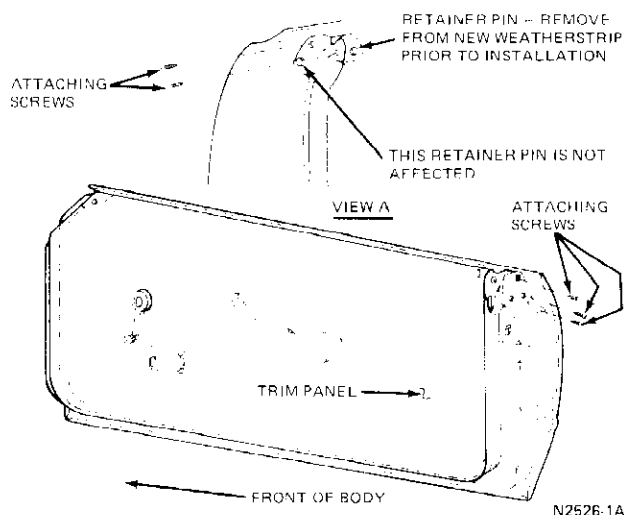

FIG. 5 Installing Door Weatherstrip—Trim Panel in Place (Typical)
1. Prior to installation of the replacement weatherstrip, remove the retaining pins from the molded detail flaps of the new weatherstrip assembly (Fig. 5).